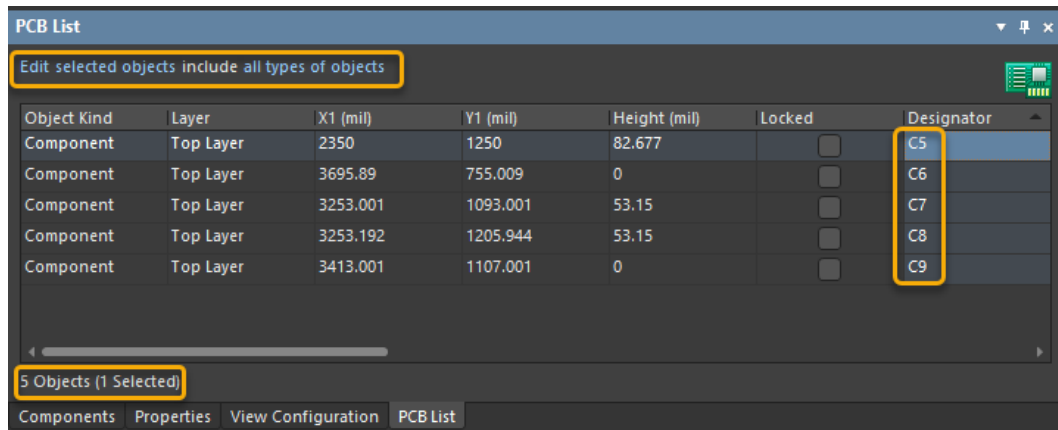

Figure 14. *PCB List* panel showing 5 components selected in the PCB.
45. Change the **all objects** hyperlink to **selected objects**. The *PCB List* panel will now display only the selected components as shown in Figure 14 below.